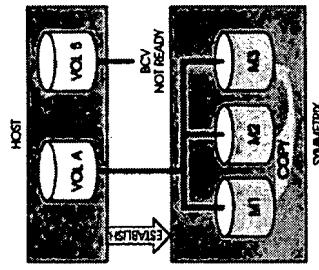

Figure 5. Establishing a BCV Pair
When Symmetrix receives an establish command from the host, it performs several functions. Figure 5 shows a BCV pair being established.
- Assign the BCV device as the next available mirror of the standard device. A BCV may be the second, third, or fourth mirror of the standard device. For example, in Figure 5 it is the third mirror (M3).
- Copy the contents of the standard device to the BCV. For example, in Figure 5 the BCV device receives its data from both the M1 and M2 devices.
After an establish operation and the standard device mirrors are synchronized (see Figure 5 on page 19), the BCV device contains a copy of the data from the standard device, valid until the point in time when a split command is issued. BC processes can now be executed with the BCV device.